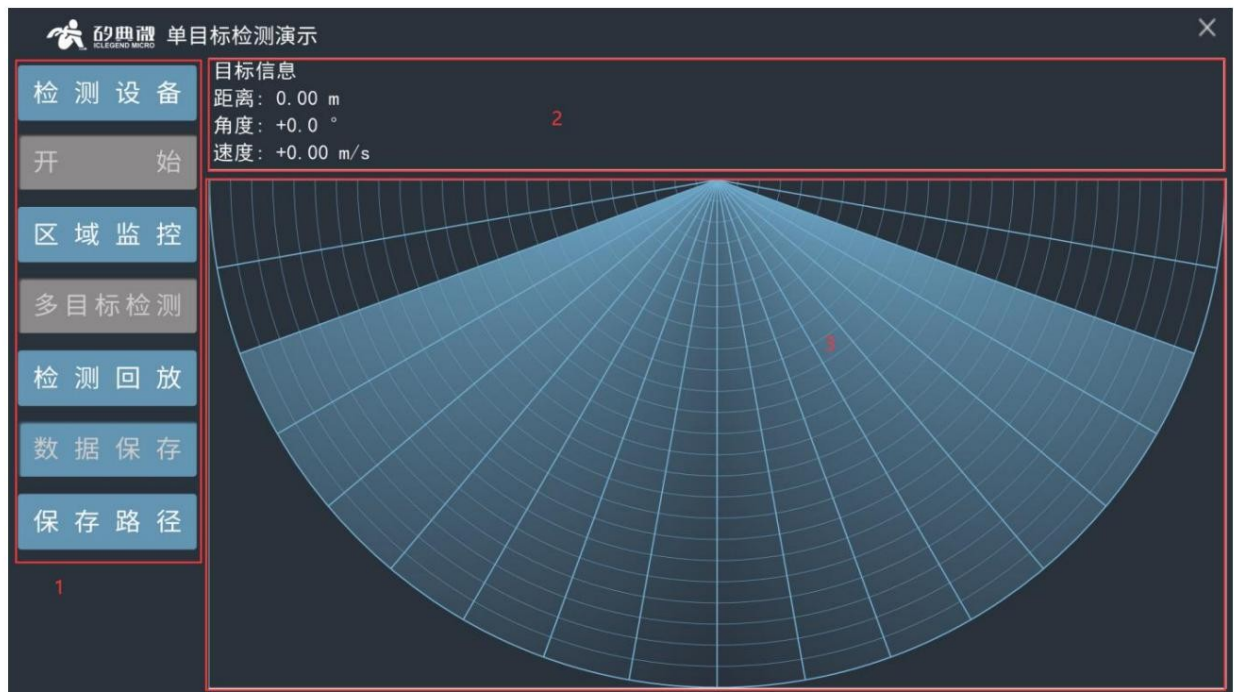

Figure 2.1.1 Demonstration Tool Interface
Step 2: Double-click to open the host computer tool "ICLM_MTT.exe". The demonstration tool interface will pop up, as shown in Figure 2.1.1.